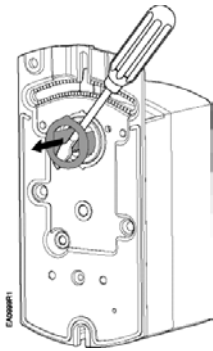

Figure 2. Removing 1/2-inch Ø shaft guide for 3/8-inch or 5/8-inch damper shaft.
1. Remove factory installed 1/2-inch Ø shaft guide (Figure 2).